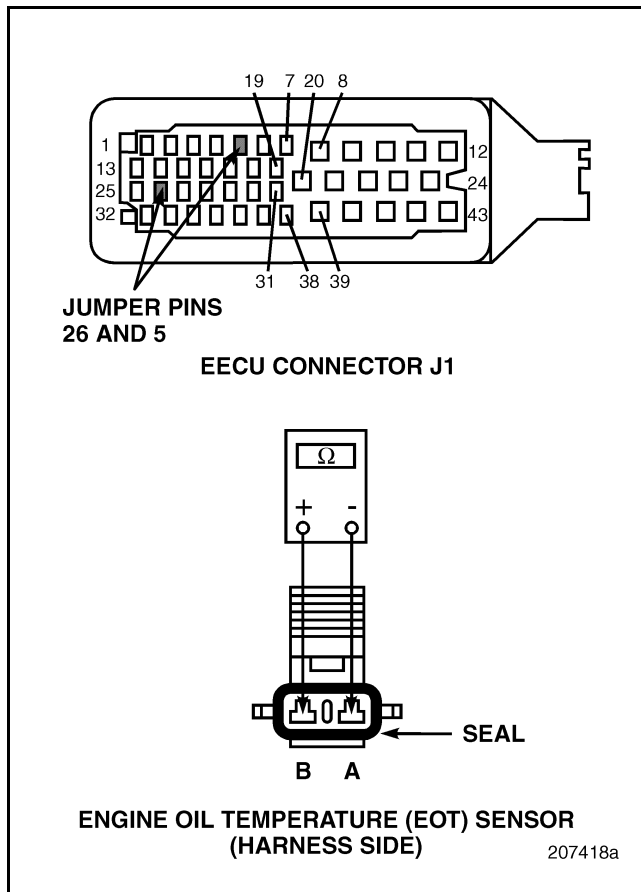

Figure 266
4. Connect a jumper between connector J1 pins 5 and 26 of the EECU harness connector (see Figure 266).